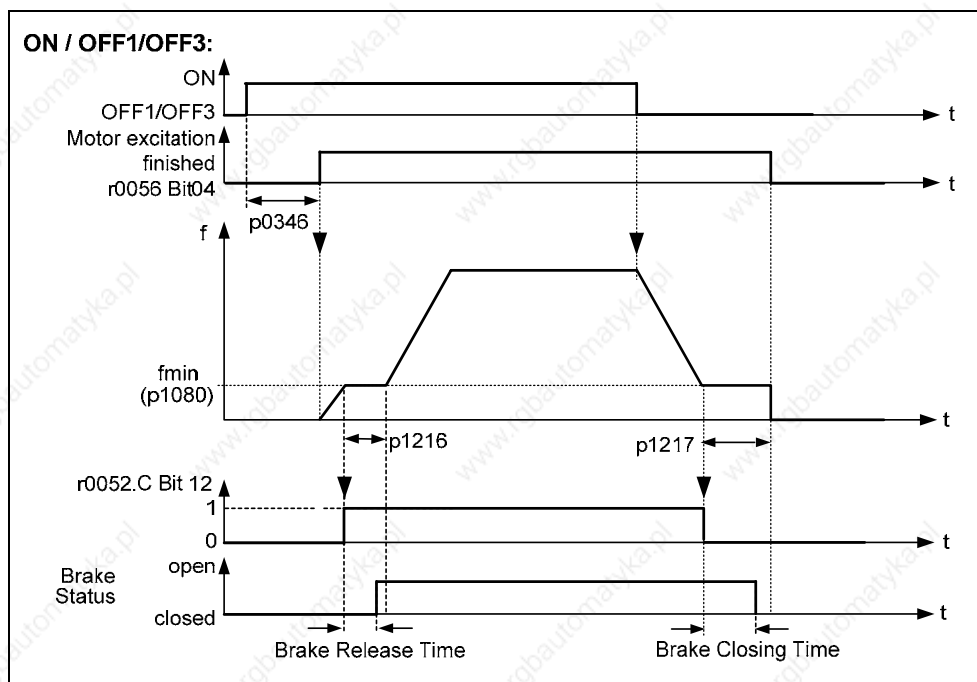
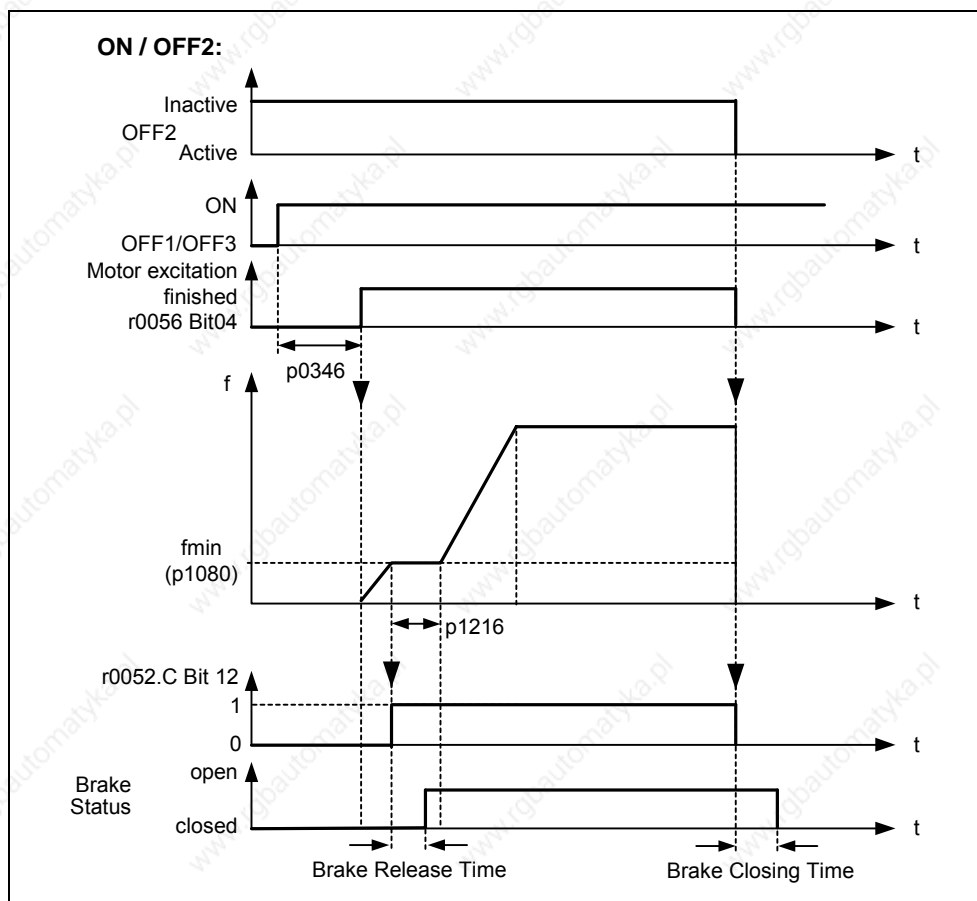

Fig. 3-68 Motor holding brake after ON / OFF1
Fig. 3-69 Motor holding brake after OFF2
Before opening the brake, the pulse inhibit must be removed and a current impressed which keeps the drive in that particular position. In this case, the impressed current is defined by the min. frequency P1080. A typical value in this case is the rated motor slip r0330. In order to protect the motor holding brake from continuous damage, the motor may only continue to move after the brake has been released (brake release times lie between 35 ms and 500 ms). This delay must be taken into account in parameter P1216 "Holding brake release delay" (refer to Fig. 3-68).
The motor holding brake is either closed using OFF1 / OFF3 or OFF2. For OFF1 / OFF3, when the minimum frequency P1080 is reached, the motor is operated at this frequency until the brake has been applied (closing times of brakes lie between 15 ms and 300 ms). The actual time is specified using parameter P1217 "Holding time after ramp down" (refer to Fig. 3-68). If, on the other hand, an OFF2 command has been output, then independent of the drive state, the status signal r0052 bit 12 "Motor holding brake active" is reset. This means that the brake immediately closes after OFF2 (refer to Fig. 3-69).
- ◆ To open/close, the digital output controls the motor holding brake at point 1/2 (refer to Fig. 3-68). In this case the prerequisite is that the motor holding brake P1215 has been activated as well as the selection of the motor holding brake at the digital output.